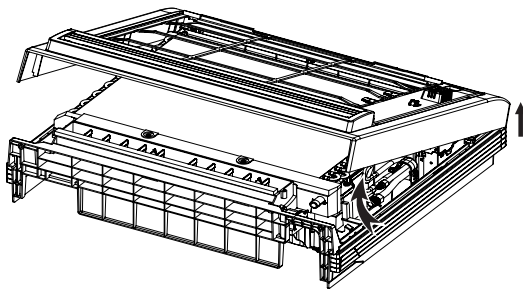

Figure 5.2.3
- 3) Lift frontal panel by about 30° (see Figure 5.2.3 on the following page); now it is possible to remove it from back side of Indoor Unit.